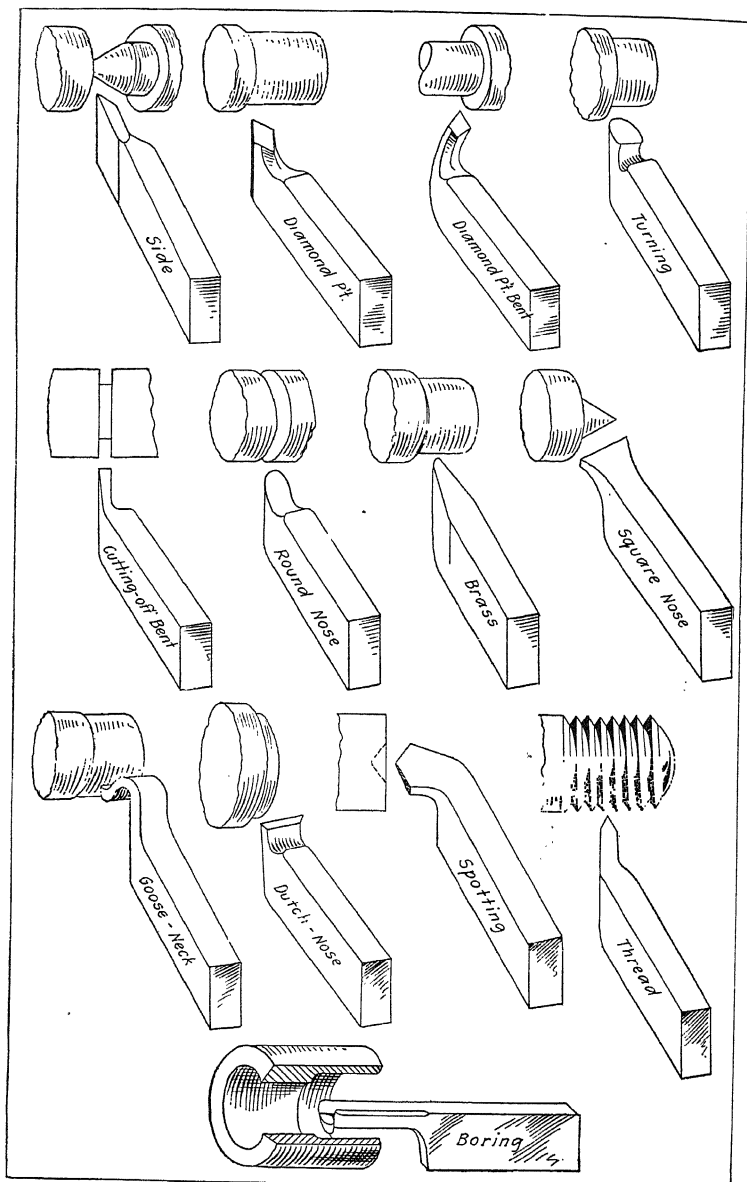

FIG. 43.—Forged tools for lathe work.
**56. Cutting Tools Used in Lathe Work.**—There are many operations that may be done in a lathe—turning, cutting a thread, boring a hole, etc., and each operation requires its own particular tool. Formerly lathe tools were forged and the chart, Fig. 43, shows several shapes of forged tools. In recent years, however, for reasons of economy and convenience, the
If the round nose of a certain tool leaves feed marks too pronounced, a tool with a larger radius may be used. If in a different kind of job, the nose has too large a radius, and taking the wider chip seems to cause a chatter, it will be easy to substitute a tool with a narrower nose. Various other shapes of tools will be described from time to time. At this time refer again to Figs. 43 and 45.